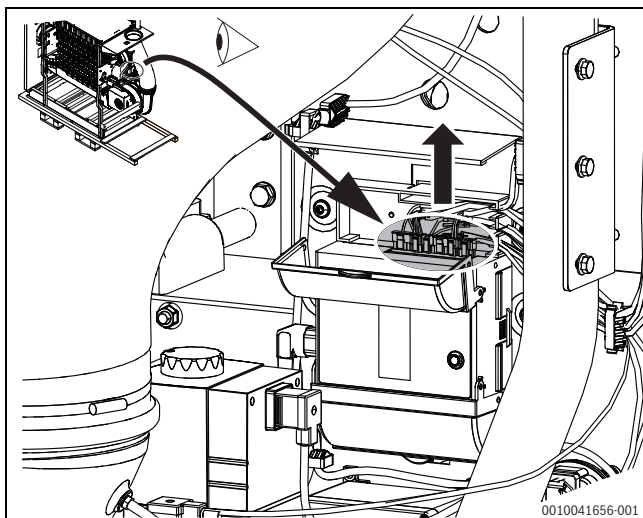

Fig. 6 Unplug the plug from the burner control unit
- Open the top flap on the burner controller and unplug the plug (→Fig. 6).